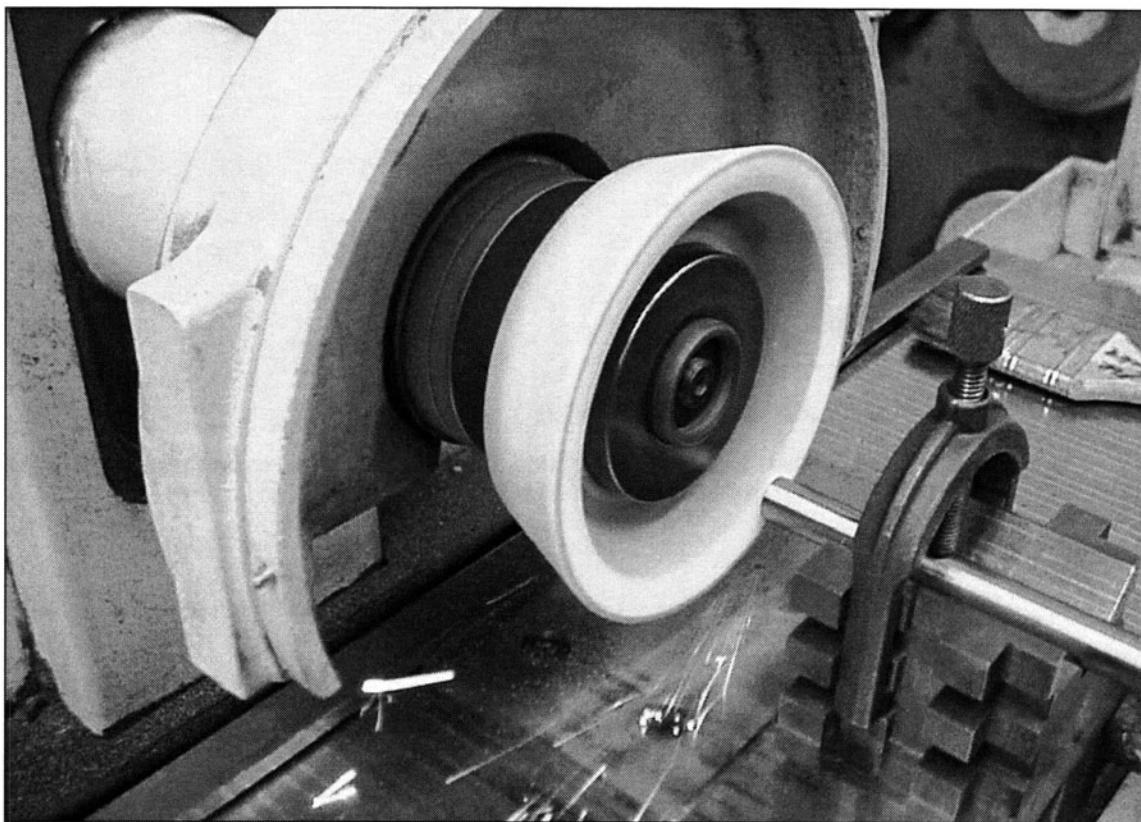

FIGURE 14-17 A thin contact area dressed into the face of a grinding wheel used for "side wheeling" reduces cutting pressure and wheel glazing.
26. Dress a thin cutting area into a wheel when "side wheeling." (See Fig. 14-17)